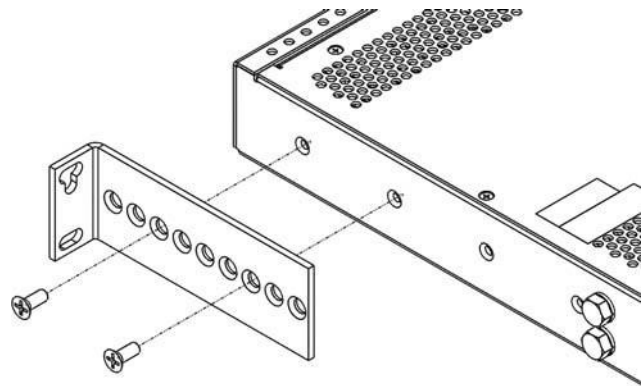

Figure 2 - Bracket Orientation
1. If necessary, remove three screws and reposition/re-align brackets on sides of distribution the panel, as shown in Figure 2.